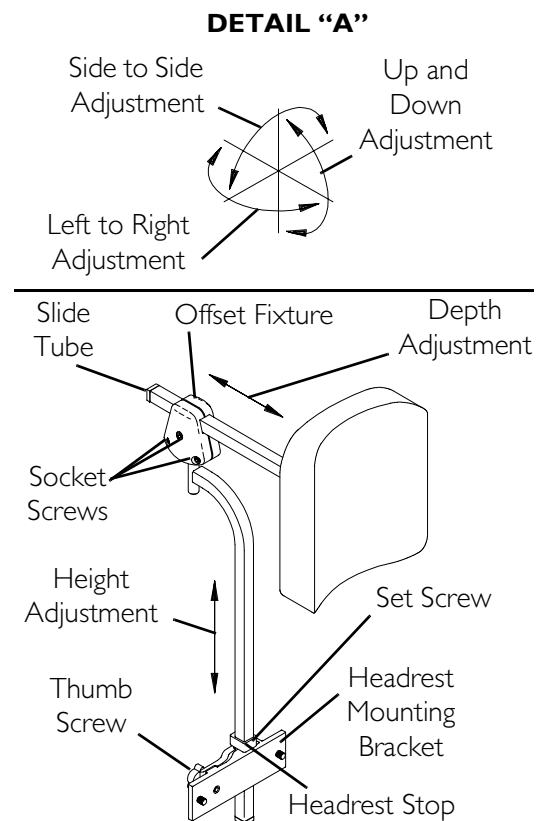

FIGURE 15.1 Removing/Installing/Adjusting Headrest
NOTE: For this procedure, refer to FIGURE 15.1.
3. If necessary, reposition the headrest to the desired position (headrest will move in any direction). Refer to DETAIL “A” in FIGURE 15.1.